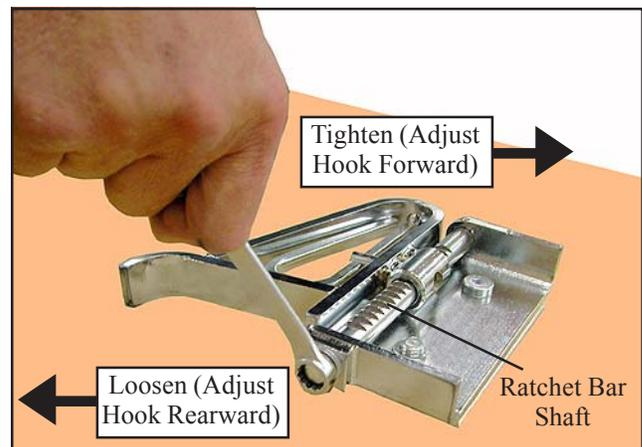

Figure 12 - Adjusting the Shaft
3. At the front of the ratchet bar shaft, use a 7/16" socket or box wrench to **tighten** the hex-head cap screw and shaft, Figure 12. (To tighten: turn clockwise).
2. At the front of the ratchet bar shaft, use a 7/16" socket or box wrench to **loosen** the hex-head cap screw and shaft, Figure 12. (To loosen: turn counter-clockwise).